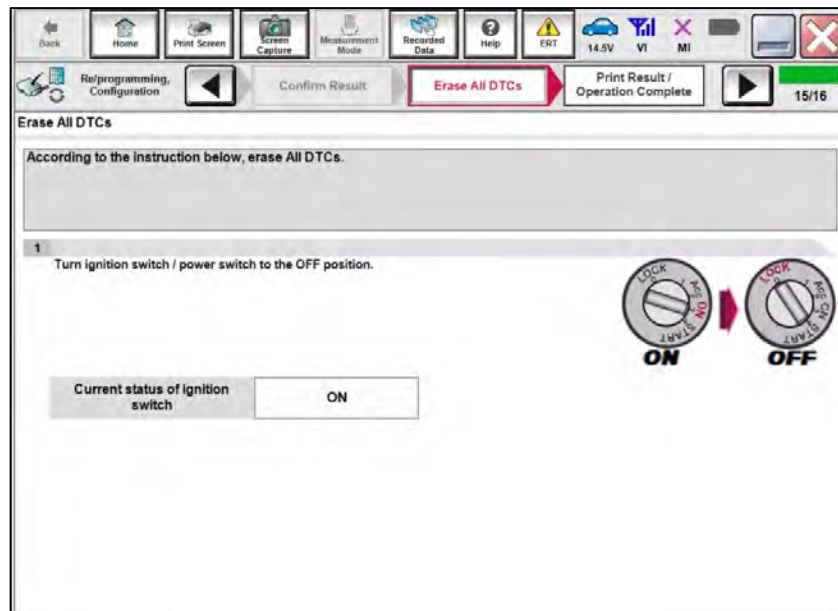

Figure 18
- If any of the items shown in Figure 18 display a status of NG, verify the battery maintainer/smart charger is turned ON and is securely connected to the 12V battery.
27. Press the power switch one (1) time to turn the ignition OFF (Figure 18), and then go to step 28 immediately.